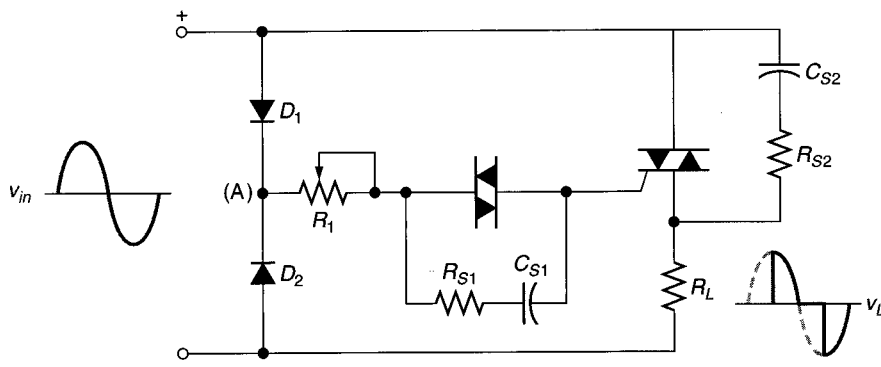

FIGURE 20.27 A triac phase controller.
A typical triac application can be seen in the *phase controller* in Figure 20.27. The primary difference between the triac phase controller and the SCR phase controller is the triac's ability to conduct during both alternations of the input signal.
With the input polarity indicated in Figure 20.27,  $D_1$  is forward biased and  $D_2$  is reverse biased. This puts a positive voltage at point A in the circuit. When  $V_A$  is high enough to overcome the  $V_{BR}$  rating of the diac and the  $V_{GT}$  rating of the triac, the triac is triggered into conduction, providing the positive output cycle shown. When the input polarity reverses,  $D_1$  becomes reverse biased and  $D_2$  becomes forward biased. In this case, point A is still positive, but MT2 is now negative. When the triac is trig-
gered, the current direction through the load is reversed and the negative output cycle is produced. Note that the triac in Figure 20.27 is quadrant I triggered during the positive alternation of the input and quadrant IV triggered during the negative alternation of the input. Also, note the presence of the diac and triac *snubber networks*. These are included because the diac and triac are subject to the same false triggering problems as the SCR.
12. Describe the operation of the triac phase controller in Figure 20.27.